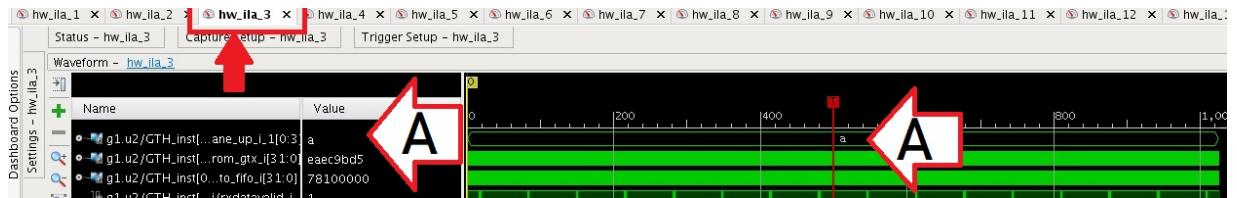

Figure 37: rx_lane_up_i displays A, indicating that lanes 0 and 2 are locked.
- 549 If everything is setup, you will see something like Figure 37. In this figure, we have two chips connected,